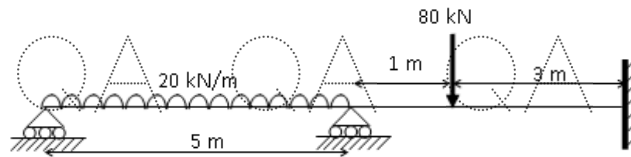

Figure. 6
8. Analyse the beam supported and loaded as shown in Figure.6. Use stiffness method. Draw BMD. [10]